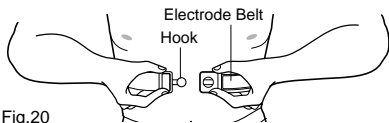
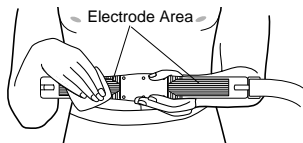

Fig.20
Fig.21
2. Lock the belt with the hook in position. The electrode areas should be contacting your skin closely (Fig. 20). If attaching it on underwear, carefully moisturize electrode areas (Fig. 21).